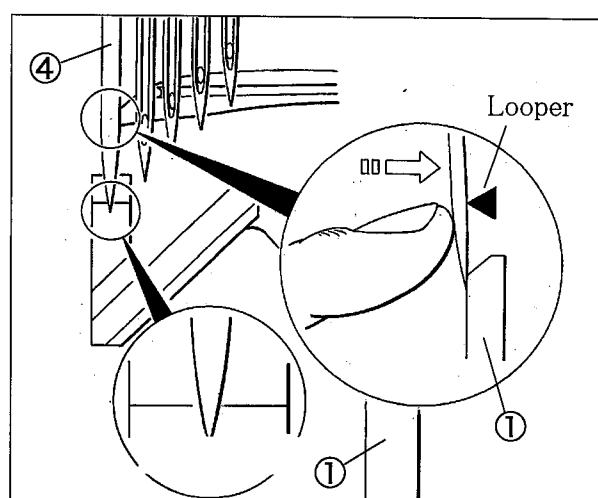

Fig. 23
(2)While lightly pressing retaining needle④ against needle guard(rear)①, the looper tip must come in contact slightly with retaining needle when the looper tip passes.(Fig. 23)